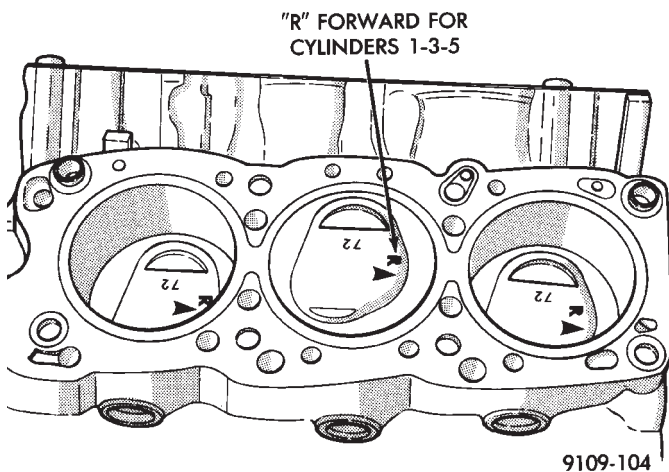

Fig. 2 Mark Pistons
(1) Mark Identify Pistons. **The pistons are not interchangeable from bank to bank** (Fig. 2). Pistons with the letter R and arrow toward the front of engine are to be installed in cylinders 1-3-5. Pistons with the letter L and arrow toward the front of engine are to be installed in cylinders 2-4-6.